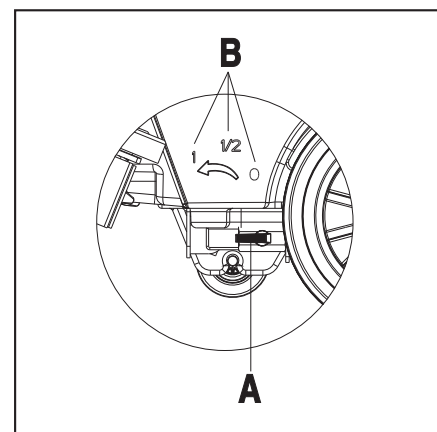

FIGURE 5
Regulating the ball valve handle (A, Figure 5) must be done under the condition when the power switch (38) is in the "Off" position.
- The volume of the water flow may be adjusted through the ball valve handle (A, Figure 5) according to the amount of water required for your scrubbing application.